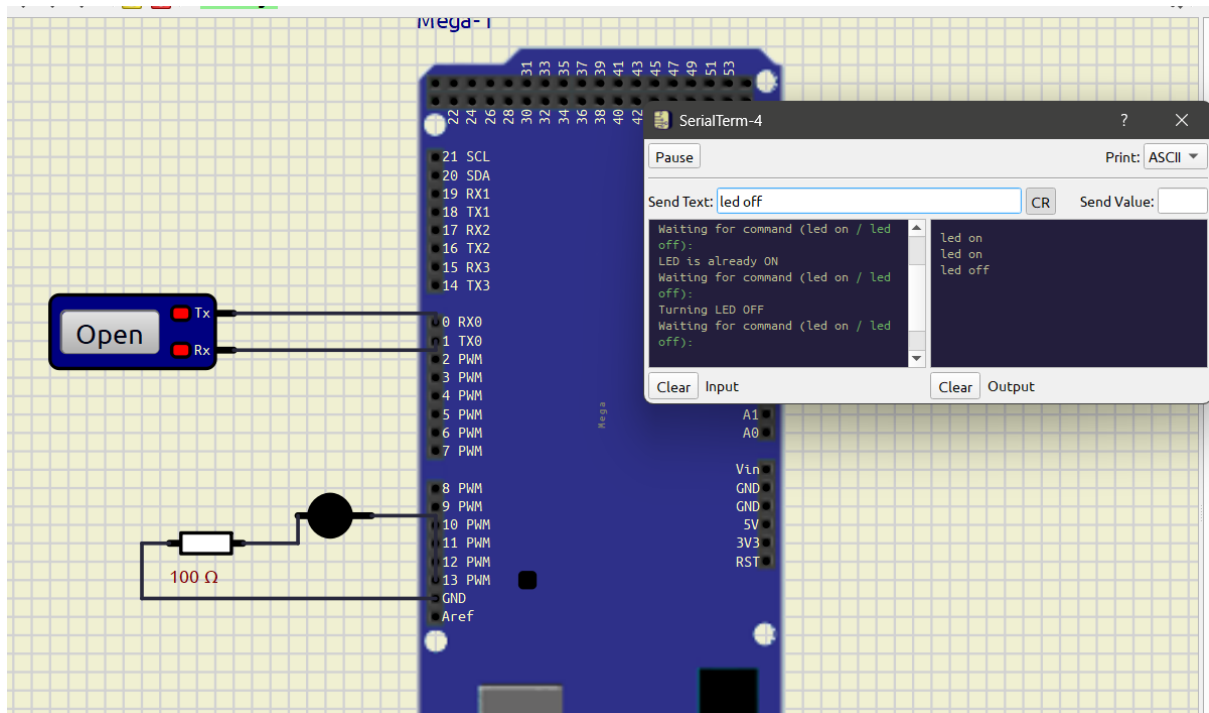

Figure 10: LED turned off after receiving "led off" command
5. Figure 10 depicts the LED turned off after receiving the "led off" command.